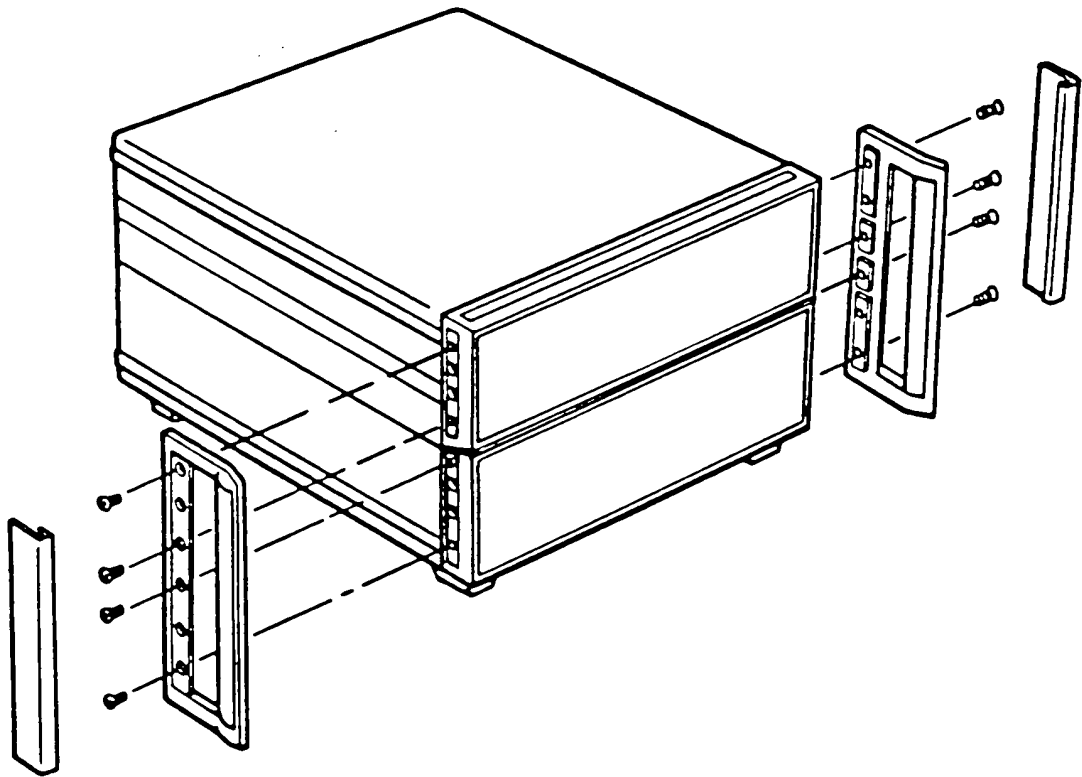

FIGURE 2. INSTALLING RACK MOUNT KIT
2. Attach the new rack mount flanges and front handles provided in the Rack Mount Kit. (See Figure 2.) Use the eight 8-32x5/8 pan-head screws included in this kit.